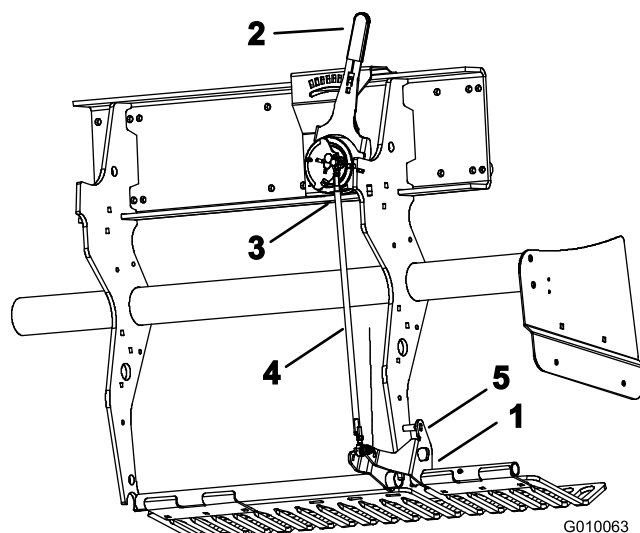

Figure 58
1. Rotate the LH turf guard mounting bracket (Figure 58) up until a locking pin (5/16 drill rod or bolt) can be inserted between the bracket and the depth setting tube welded to the frame.
2. Move the ground following lever (Figure 58) to the H setting (deepest).
3. Disconnect the outboard ball switch (Figure 58) from the wire harness (Head-Low switch).
4. Loosen the jam nuts (LH and RH) on the depth adjustment tie rod (Figure 58).